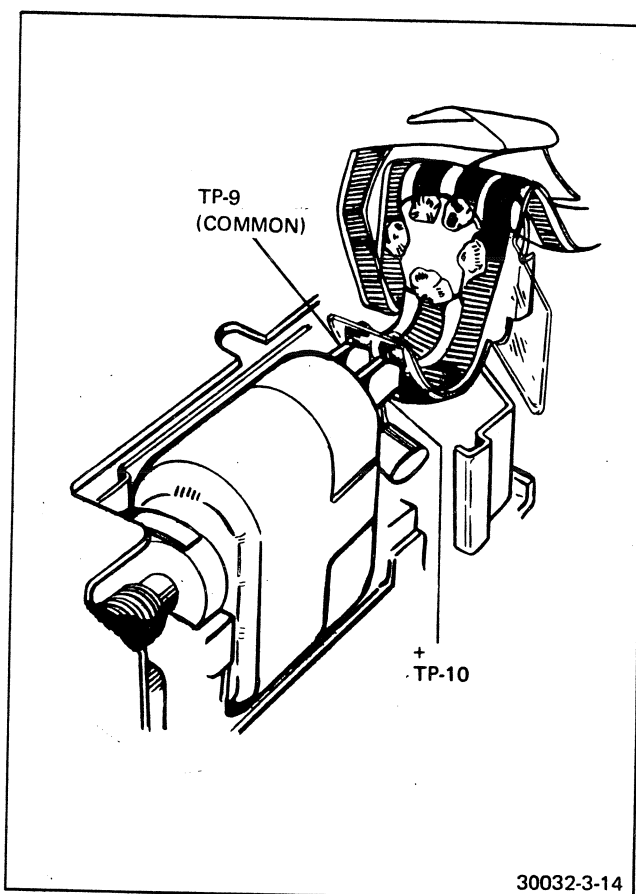

FIGURE 3-14 MOTOR CONNECTIONS
8. If there is no fault in the solenoid, check the motor. Two conditions could cause the motor to draw excessive current; a mechanical overload, or an electrical short circuit. Remove the power-supply simulator and remove the camera bottom cover (Section IV). Lift the flex circuit, Section IV, paragraph V, to expose the motor connections (Figure 3-14) TP-9 motor (−) and TP-10 motor (+). Use the Triplet Model 801 VOM and check the resistance across the two test points (motor contacts). It should be approximately 2 ohms. If the motor resistance is low, replace the motor and retest. If the resistance reading is correct, check the gear train.